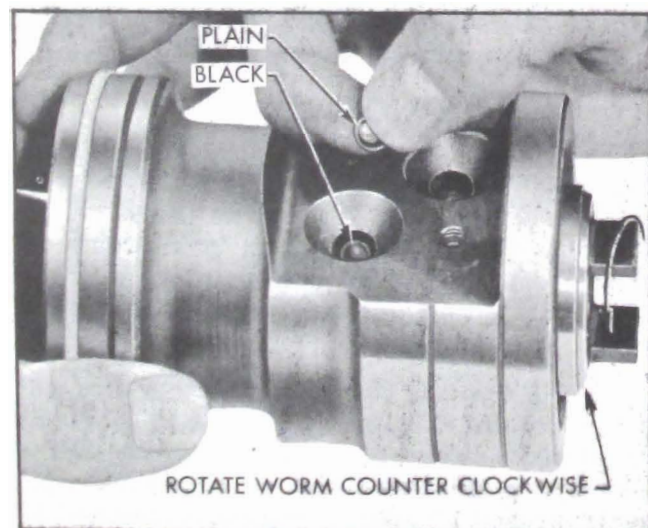

Figure 8-60—Loading Balls in Rack-Piston Nut
4. Align the ball return guide holes in the rack-piston nut with the worm groove. Load 16 balls, 8 plain and 8 black in alternate sequence into the guide hole nearest the piston ring while slowly rotating worm counterclockwise. See Figure 8-60.